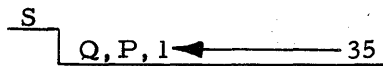

Figure 24 . ALS Schematic
This instruction causes the C(AC)Q, P, 1-35 to be shifted left the number of places specified by Y. For example, ALS 3 would shift the C(AC) three places to the left. The sign position of the AC is not shifted (Figure 24). If a 1 bit is shifted into position P from position 1, the AC overflow indicator is turned on. Bits shifted past position Q are lost and vacated positions are filled with zeros.